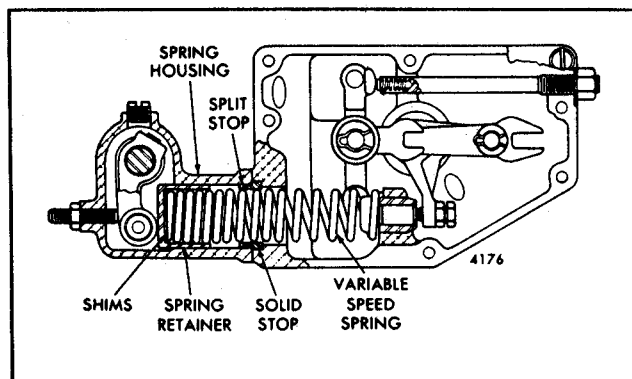

Fig. 4 - Location of Shims and Stops
3. Refer to the table below and determine the stops or shims required for the desired full-load speed. A split stop can only be used with a solid stop (Fig. 4).